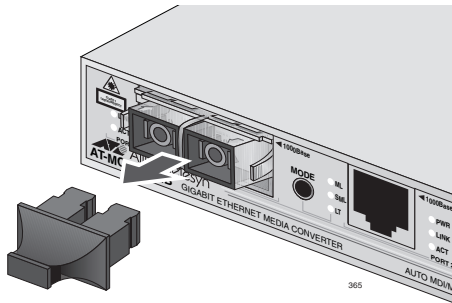

Figure 17. Removing the Dust Cover from the GBIC Transceiver
1. Remove the dust cover from the fiber optic port, as shown in Figure 17.
1. Remove the dust cover from the SFP transceiver, as shown in Figure 17.